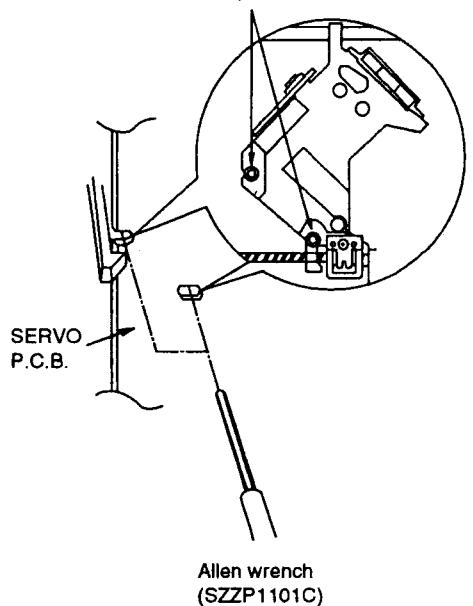

Fig.2
Procedure 1 ➔ 29	1. Set up the mechanism unit as shown in figure. 2. Remove 2 screws (① ~ ②). 3. Remove the Mechanism P.C.B. in the direction of arrow.
4. Alternately adjust the two mechanical adjusting screws with the 2.0mm allen wrench (SZZP1101C) until the RF signal amplitude variation on the oscilloscope is minimized. (Refer to Fig. 2 on page 22)